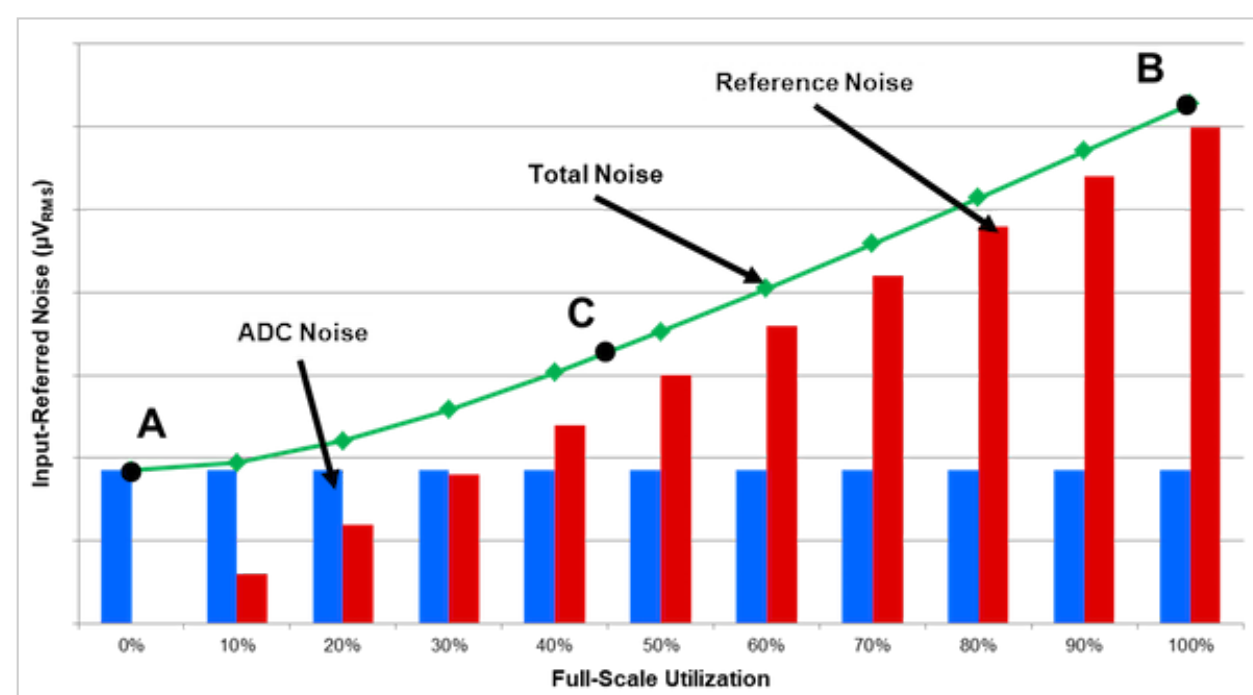

Figure 1. ADC noise, reference noise, and effective resolution as a function of FSR utilization
As I discussed in part 8, the amount of reference noise that enters a data acquisition system depends on the reference source's noise performance as well as the percent utilization of the full-scale range (FSR). To demonstrate this reliance on percent utilization, I plotted ADC noise, reference noise and total noise as a function of the full-scale utilization (input voltage) assuming a 2.5V reference. Figure 1 shows a plot of this relationship using the Texas Instruments (TI) ADS1261, a 24-bit delta-sigma ADC with an integrated programmable gain amplifier (PGA).
One of the most obvious ways to reduce the level of reference noise entering a system is to choose a voltage reference with less noise. This has the effect of reducing the level of the red bars in Figure 1 and extending the useful FSR utilization limit.
However, as I suggested in part 8, take care to match the level of reference noise to the level of ADC noise for any given input signal. For example, if you sample a 2.5V input signal using the ADS1261, you could only use a gain of 1V/V. In those circumstances, choosing a voltage reference with less noise than the REF6025 will likely have little effect on overall system noise, since the FSR utilization is so high (Figure 1).